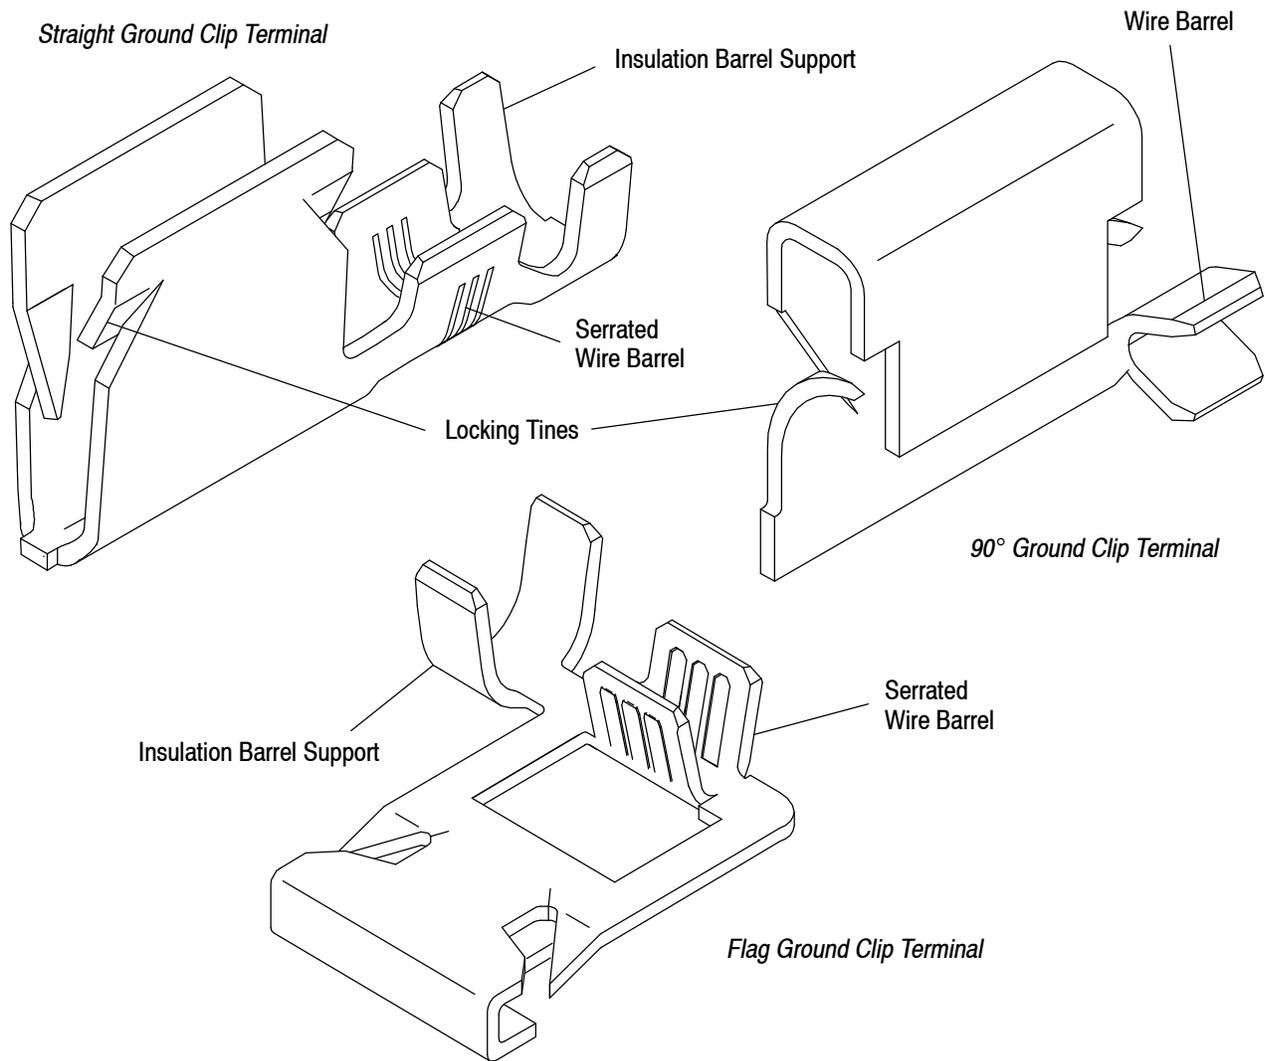

Figure 1
This specification covers requirements for the application of Grounding Clip Terminals with "F" crimp wire barrel feature. This crimp feature provides reliable electrical and mechanical performance. Three different crimp barrel orientations are available as shown in Figure 1. The straight version will accommodate a single wire size range of 18-14 AWG or (2) 18 AWG wires; the flag version will accommodate a single wire size range of 24-14 AWG or (2) 18 AWG wires; and the 90° version will accommodate a 22-18 AWG wire size range. The Grounding Clip Terminal is available in stainless steel.
When corresponding with TE Connectivity Personnel, use the terminology provided on this specification to help facilitate your inquiry for information. Basic terms and features of components are provided in Figure 1.